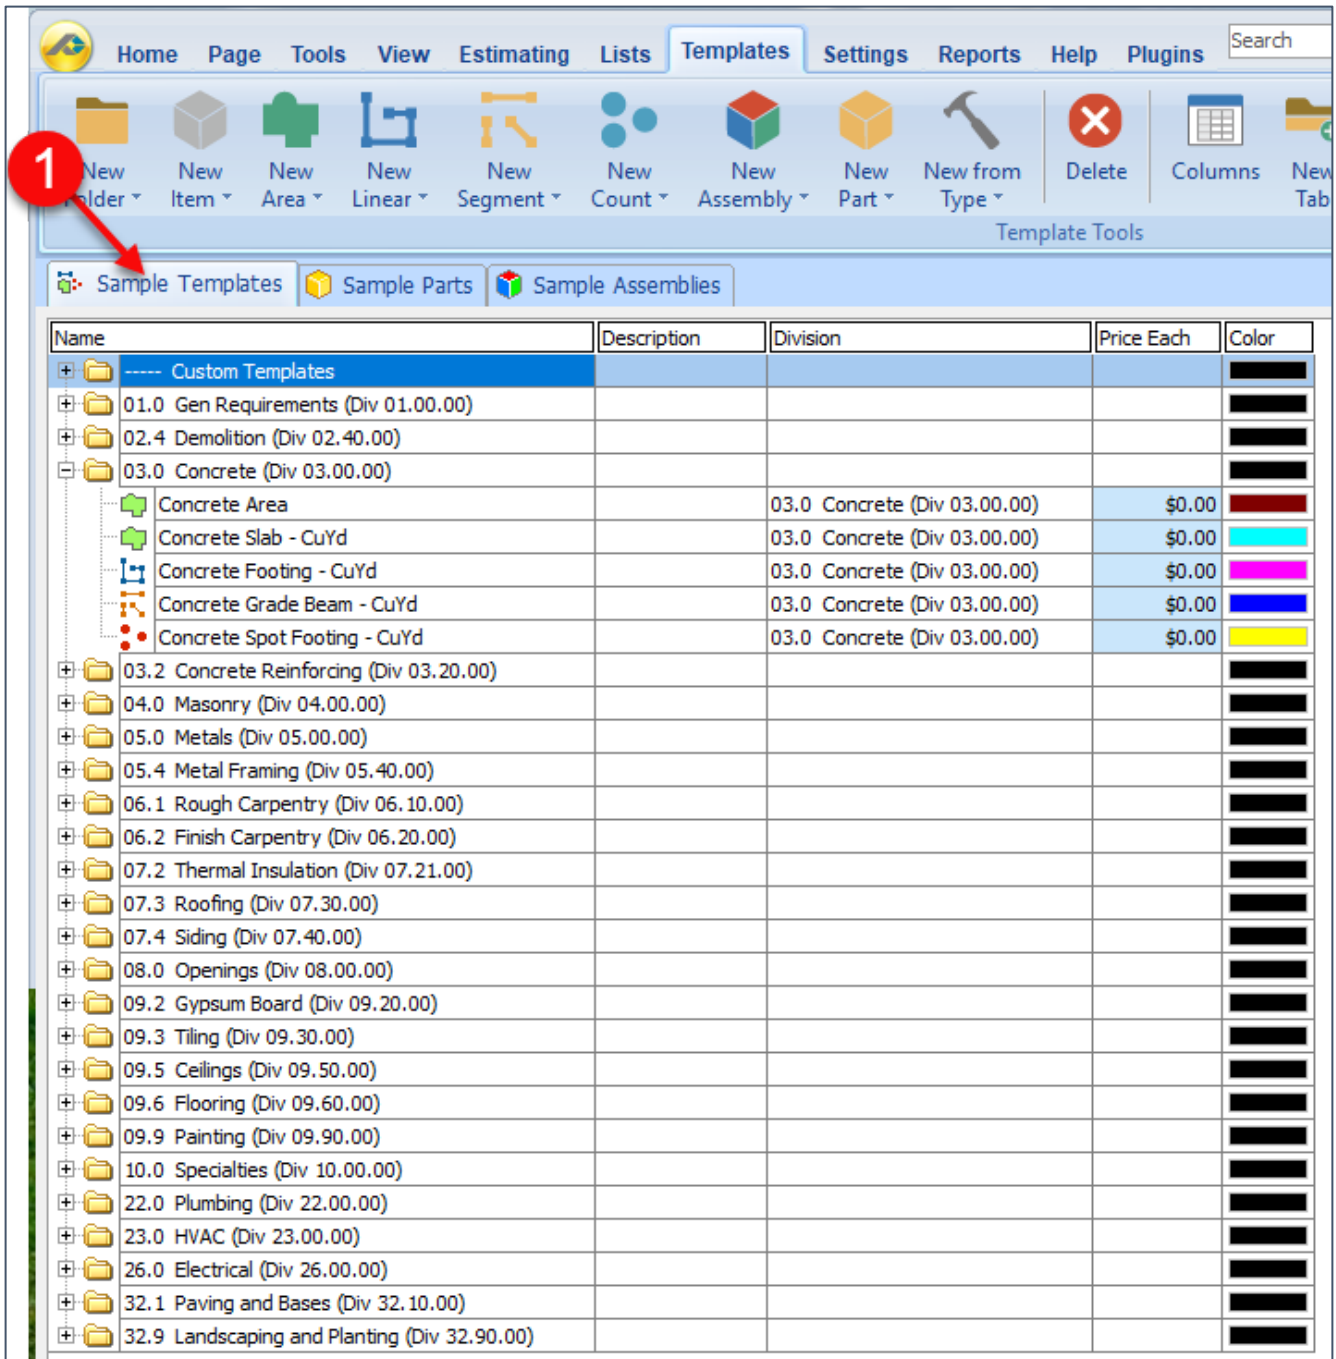

Figure 40-B
2. Figure 40-C shows the **Sample Parts**.